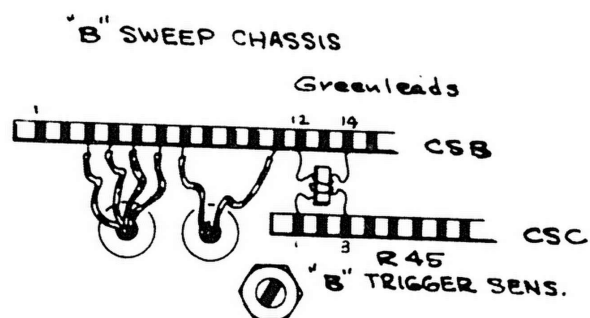

Fig. 1
- a) Replace T52 on the 'B' Sweep chassis between CSB-12/14 and CSC-1/3 with the TEFLON insulated transformer. Install the green leads in CSB-12/14 and the red leads in CSC-1/3. Refer to Fig. 1.